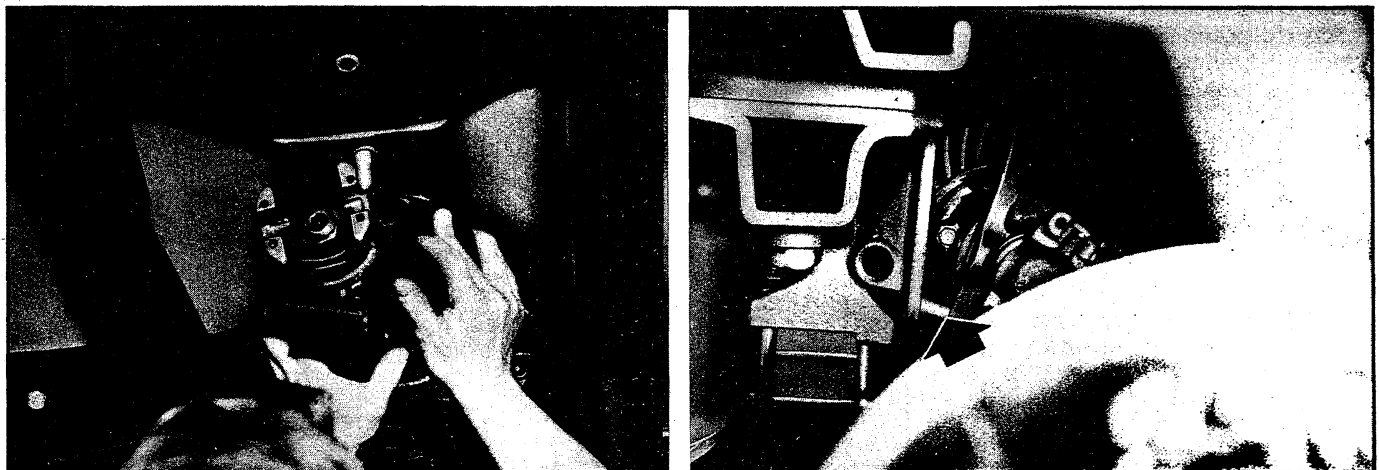

Fig. 96—Installing Carrier Assembly
3. Raise carrier into position aligning studs into cover (fig. 96).